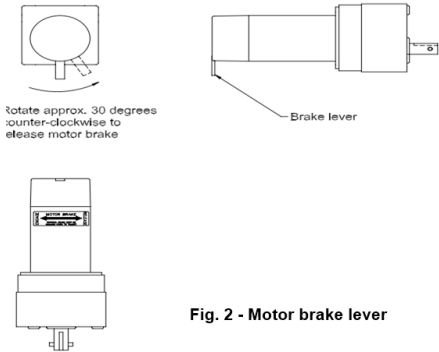

Fig. 2 - Motor brake lever
4. Rotate the brake lever, on the backside of the motor, counter-clockwise (looking from the rear of the motor) about 1/8 of a turn to the released position (Fig. 2). This will release the brake that holds the room in place.
- ☐ **MAJOR** faults must be cleared by pushing and releasing the SET STOPS/CLEAR FAULTS button located on the back of the wall touchpad (Fig 2).